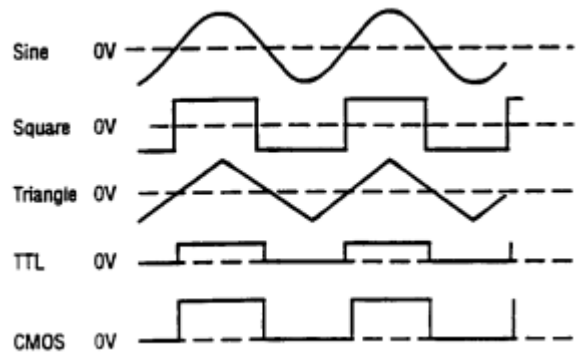

Figure 2. Output Waveform and Phase Relationship
1. Initially, verify that the **DUTY CYCLE** (17), **CMOS LEVEL** (15), **DC OFFSET** (14), **-20 dB** (11), and **SWEEP INT/EXT** (12) switches are in the **OUT** position (released). This will produce a symmetrical waveform unaffected by the sweep generator and other controls.
2. Plug the unit into an appropriate power source and turn it on by engaging the **POWER** switch (1).
3. Select the desired waveform (**SINE**, **SQUARE**, or **TRIANGLE**) by engaging one of the **FUNCTION** switches (3). Phase relationships of the waveforms are shown in Fig. 2.
4. Select the frequency of the waveform by depressing one of the **RANGE** switches (2). The output frequency is displayed, along with the appropriate measurement units, kHz or Hz (23), on the LED display.
5. Rotate the **COARSE** (20) frequency control to quickly set the output frequency to the approximate desired value. The **FINE** (19) frequency control can then be used to easily set the output